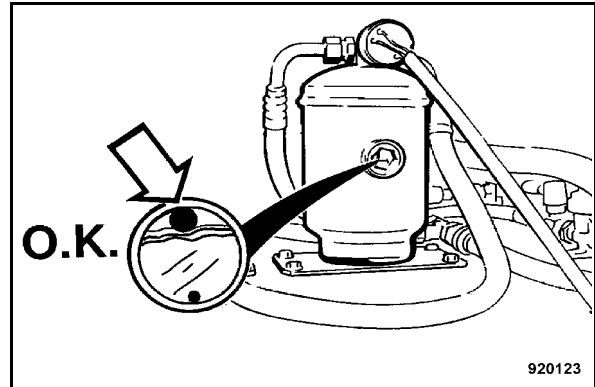

Fig. 157
- Check whether the white float (Fig. 157) inside the inspection glass of the drier/collector unit floats right at the top.